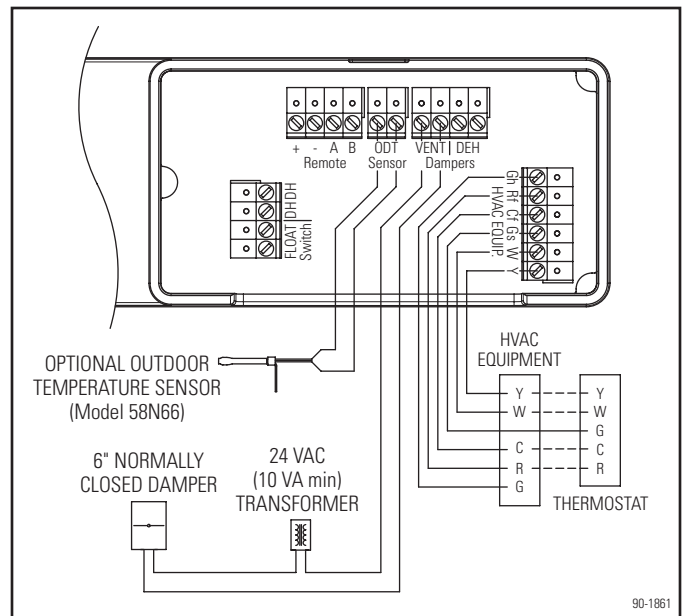

Figure 26. Ventilation Wiring
When wired as shown in **Figure 26**, the ventilation damper will open whenever there is an HVAC heating (W), cooling (Y) or fan (Gs) call, allowing fresh air to be brought in when the HVAC blower is running (see VENTILATION WITH AN EXTERNAL CONTROL section below for exceptions). The ventilation damper will also open if the dehumidifier is operating. "VENTILATING" will show on the dehumidifier control when the dehumidifier is actively ventilating. When the HVAC call ends, the dehumidifier stops, or after the set amount of ventilation time has been met, the ventilation damper will be closed.